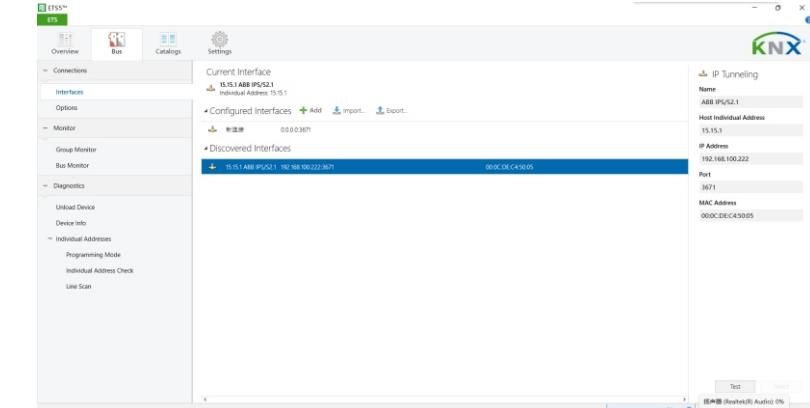

Figure 17
2.4. Create project, here we take KNX IP interface as an example. Click on “**BUS**” on the top, then click on “**Interfaces**” under “**Connections**” on the left column. The KNX IP interface will be discovered automatically and shown under “**Discovered Interfaces**” as shown in Figure 17.